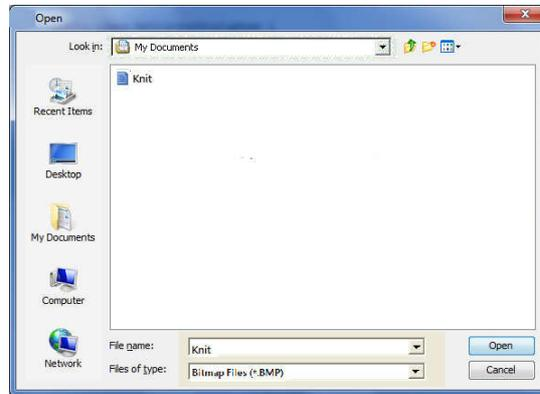

Figure 6-13A Select BMP file dialog box
1) Click  to pop-up the dialog box (See Figure 6-13A), select the file which needs to be converted to DAT.